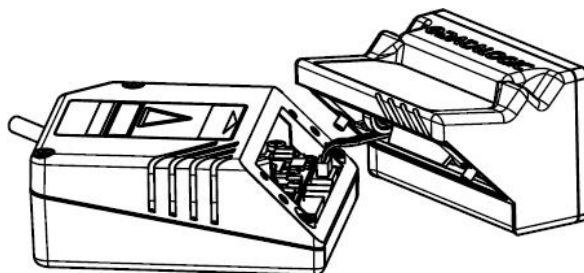

Figure 30 – OM2000N Electrical Connection
The OM2000N is directly powered from the scanner through a connector which is accessible after removing the scanning window (see Figure 30). It therefore operates exclusively at low power, between 10 and 30 VDC.
- 3) Bring the OM2000N close to the scanner and insert the cable into the power connector of the scanner (see Figure 30).